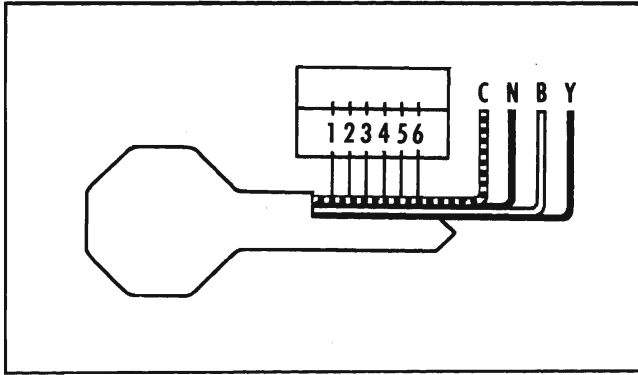

Fig. 1-3 Key Coding Diagram
1. Place key on diagram (Fig. 1-3) with bottom, head and point aligned.